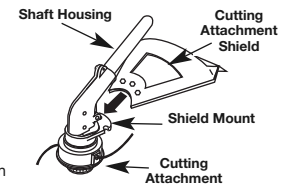

Fig. 2
- Slide the cutting attachment shield into the shield mount on the cutting attachment. Align the screw holes in the shield with the holes in the cutting attachment shield mount (Fig. 2).